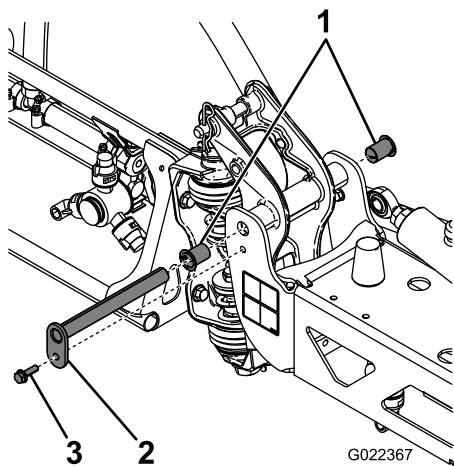

Figure 107
3. With the weight of the boom supported, remove the bolt and nut securing the pivot pin to the boom assembly (Figure 107).
6. Remove and inspect the nylon bushings from the front and back sides of the pivot bracket (Figure 107).
8. Install the boom and pivot bracket assembly into the center frame, aligning the openings (Figure 107).